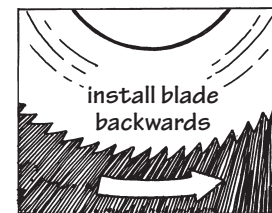

Figure 21.
- With a circular saw, install the fine-tooth (plywood) blade backwards on the saw for a smoother, cleaner cut, especially in cold weather (Fig. 21). Cut slowly. Do not attempt to cut materials other than vinyl with a reversed direction saw blade.